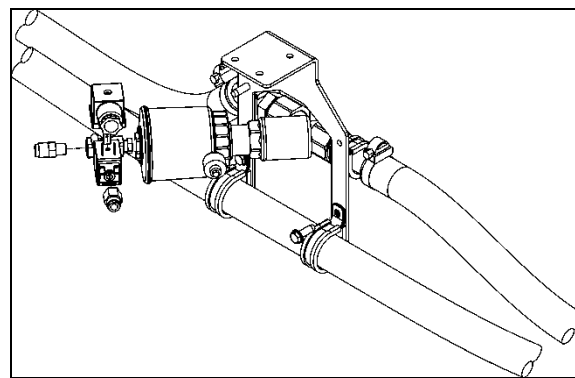

FIGURE 49: DRIVER'S UNIT HOT WATER PNEUMATIC VALVE ASSEMBLY
The flow of hot water to the driver's unit heater core is controlled by a normally open (NO) pneumatic valve like. The valve located at the ceiling of the spare wheel compartment (Figure 49), is designed so that the pilot solenoid valve, which is part of the assembly, opens and closes a port which directs air pressure to the actuator casing, thereby opening or closing the valve.
2. Locate the normally open hot water pneumatic valve on the ceiling of the spare wheel compartment (Figure 49), disconnect its wiring connector, and then connect a 24-volt external power source, using jumper cables, to close the valve.